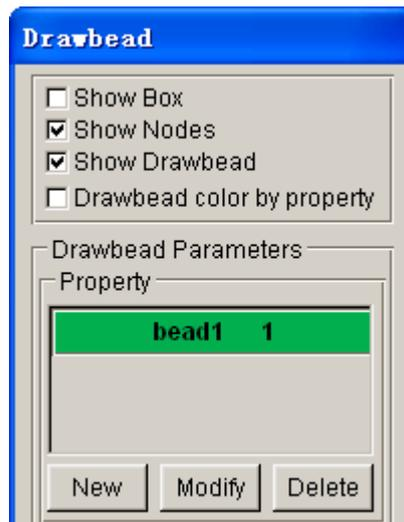

Figure 7.29 Draw bead properties list
5. As illustrated in Figure 7.29, a new drawbead property named **bead1** is added to the list.